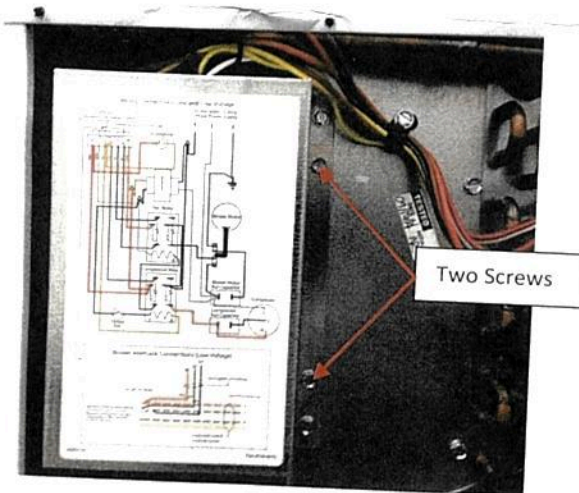
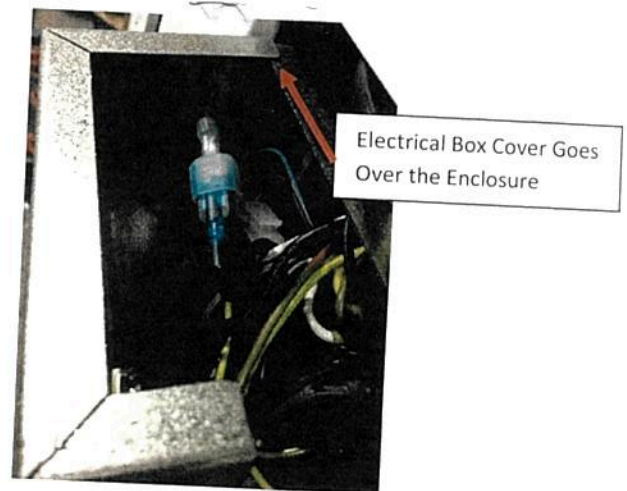

Figure 15a
Figure 15b
Step 16 – Carefully replace the electrical box cover with the two screws (Figure 15a). Make sure all wires are inside the electrical box and the cover goes over the enclosure on all sides (Figure 15b).